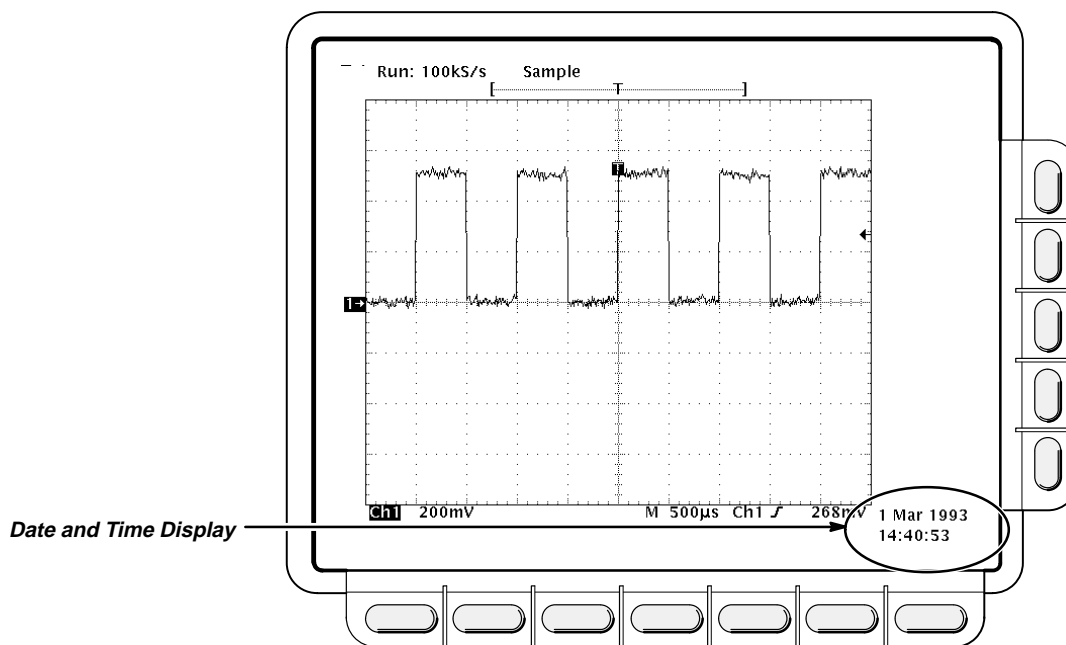

Figure 3-33: Date and Time Display
2. Press **Clear Menu** to remove the menu from the display so the date and time can be displayed (see Figure 3-33). (The date and time are removed from the display when menus are displayed.)